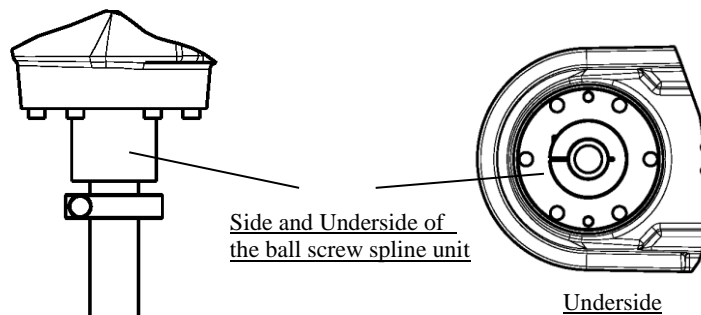

Fig. 6.1 The port of the ball screw spline unit not to apply anticorrosive
- The ball screw spline of the simple clean type robot is rustproof specifications. Therefore, please do not apply anticorrosive to a part shown in Fig.6.1. Otherwise the anticorrosive may scatter and compromise the cleanliness level.
- 5) Apply grease to the exposed part of the shaft by a brush or the like. Apply the grease to such an extent that the shaft groove can be filled with grease. See Fig. 6.1 for the grease application part.
- 7) Apply grease by a brush or the like to the part of the shaft sticking up from the cover. Apply grease to such an extent that the shaft groove can be filled with grease. See Fig. 6.1 for the grease application part.